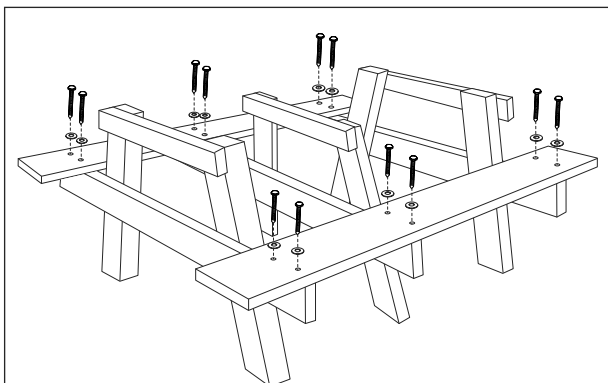

Figure 1
4. Loosely attach seat boards to A-Frame base with the 3 1/2" lag screws and washers using the power drill and 7/16" socket bit (will tighten later in step 6). (See Figure 1)